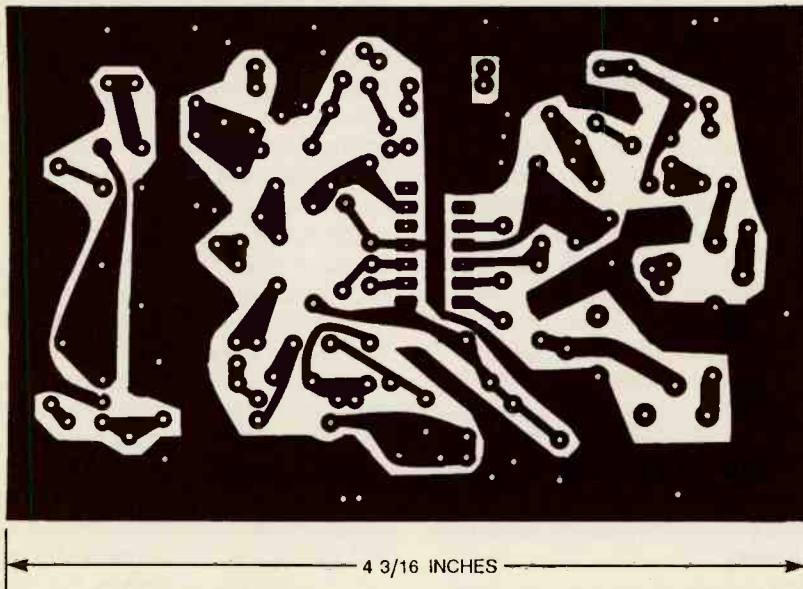

Fig. 2. Although not strictly needed, this foil pattern allows for neat and easy construction. It is shown here full size.
**Assembly.** The SCA Adapter was assembled on a small printed-circuit board measuring about 4 $\frac{3}{16}$  by 2 $\frac{1}{16}$  inches. A full-size template of the circuit-board layout is shown in Fig. 2. Once you have etched your own printed-circuit board and gathered all of the required parts, construction can begin.